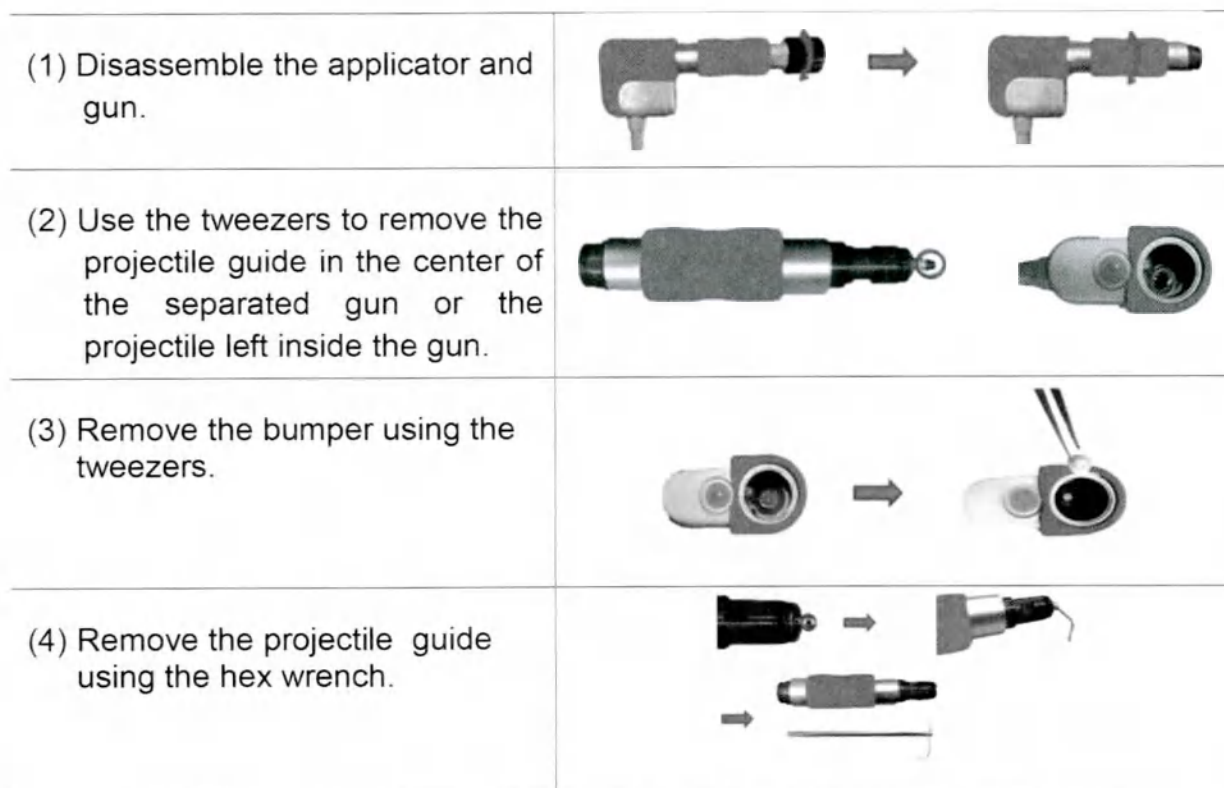

Figure 34. Projectile, projectile guide, bumper disassembling
(2) Exchange method
As shown in Figure 34-(1) rotate the applicator to disassemble and rotate the center of the gun to disassemble. Use the tweezers to remove the projectile guide in the center of the separated gun or the projectile left inside the gun, Figure 34-(2). The bumper can be also removed by using the tweezers. Use hex wrench to remove the projectile guide as shown in Figure 34-(3). After replacing new parts, assemble in reverse order.